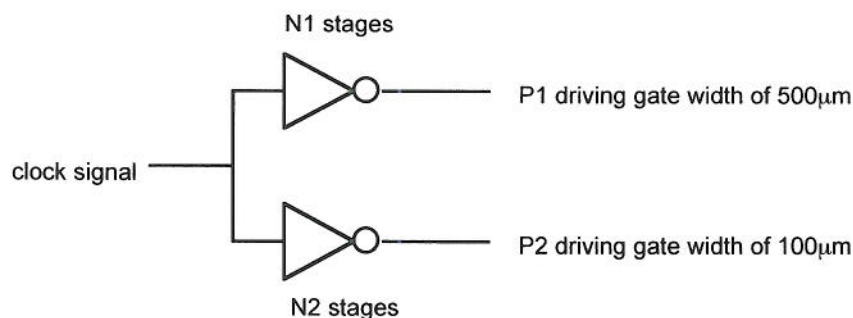

Figure 5.2
- b) In a 180nm CMOS process, the widths of a minimum size inverter p and n transistors are 360nm and 180nm respectively. The unit delay is given to be 20ps. The circuit contains two separate clock paths P1 and P2 as shown in *Figure 5.2*. The total gate widths seen by the two paths are 500 $\mu$ m and 100 $\mu$ m respectively.
- (i) Using the method of logical effort, or otherwise, estimate the clock skews between the paths if the inverters shown in *Figure 5.2* are minimum size.